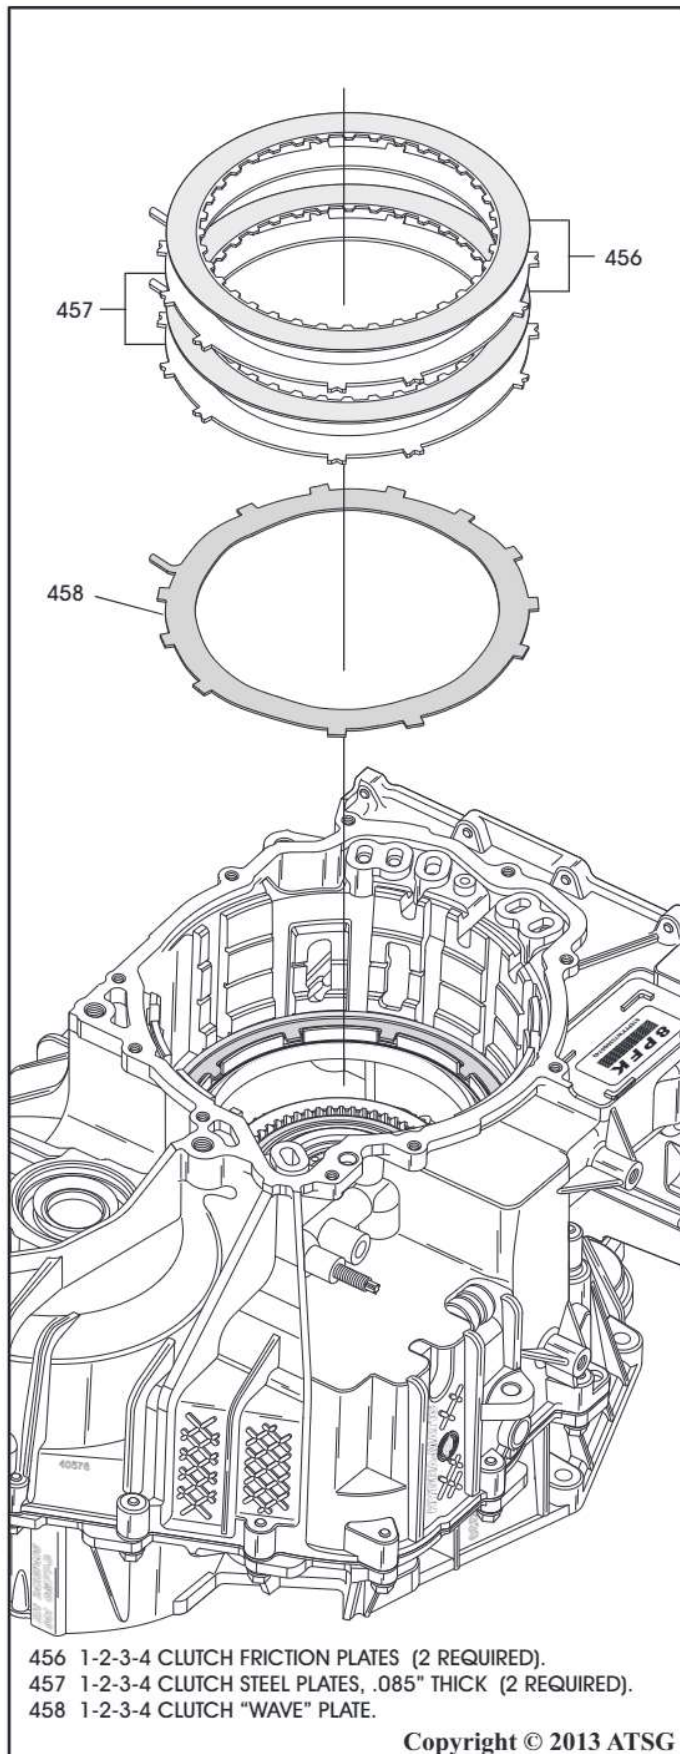
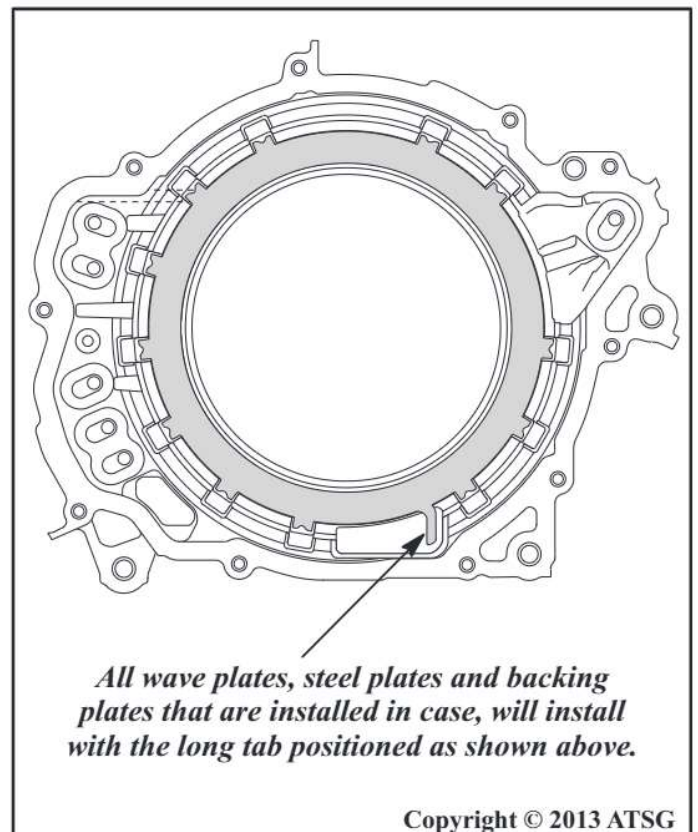

Figure 193
Figure 194
16. Install the 1-2-3-4 clutch wave plate in the case, as shown in Figure 193, with the long tab facing the bottom of the case (See Figure 194)..
17. Install the 1-2-3-4 clutch plates beginning with a steel plate and alternating with friction plates until you have installed 2 of each, as shown in Figure 193.
Note: *All wave plates, steel plates and backing plates that are installed in case will install with the long tab positioned as shown in Figure 194.*
Note: The steel plates are .070" thick and the apply plate is .115" thick. Refer to Figure 194 for positioning of the long tabs.